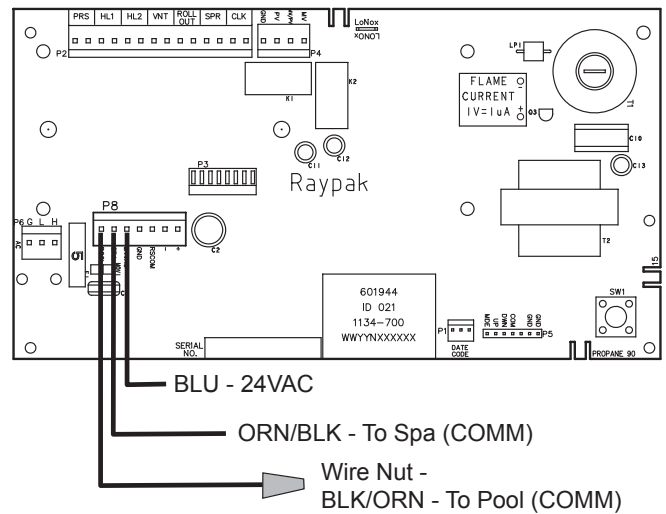

Figure 50. 2-Wire Remote Harness Installation on the P8 Connector of the Board
7. Install the "7-Pin Remote Interface Harness" to the P8 connector and turn power "ON" to the heater. See **Figure 50**.